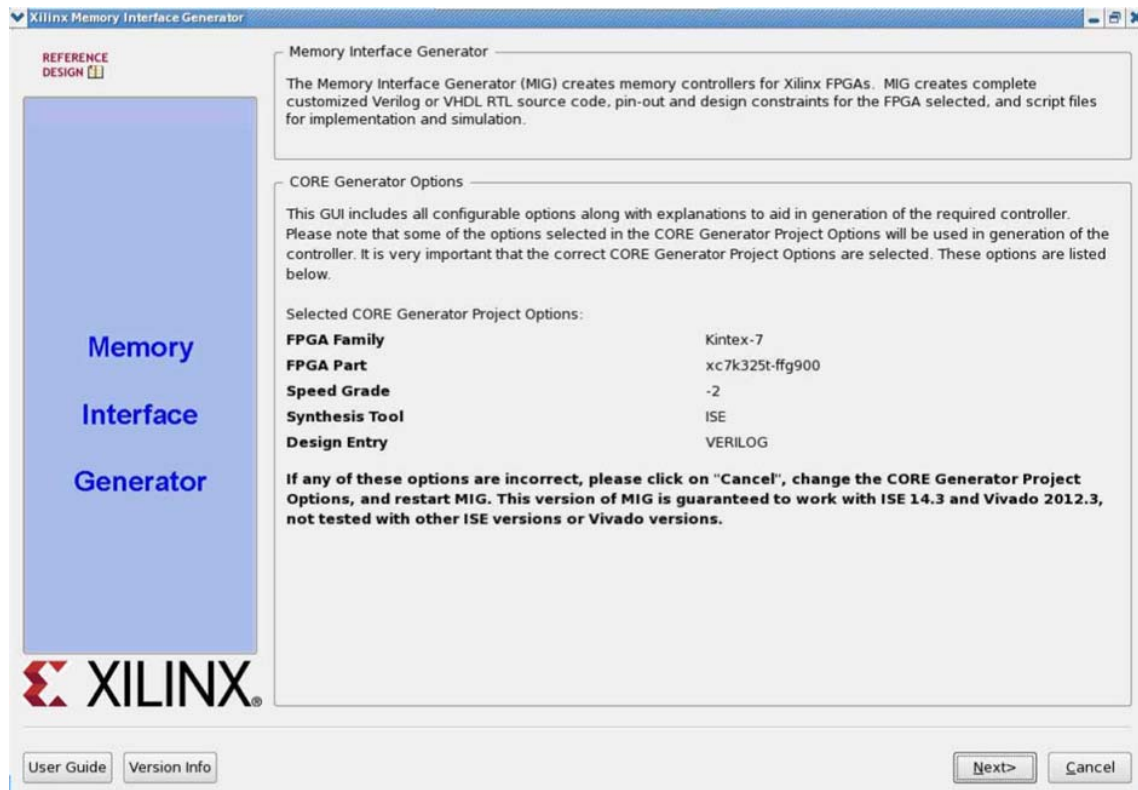

Figure 5-13: 7 Series FPGAs Memory Interface Generator FPGA Front Page
13. Select **MIG 7 Series** to open the MIG tool (Figure 5-13).